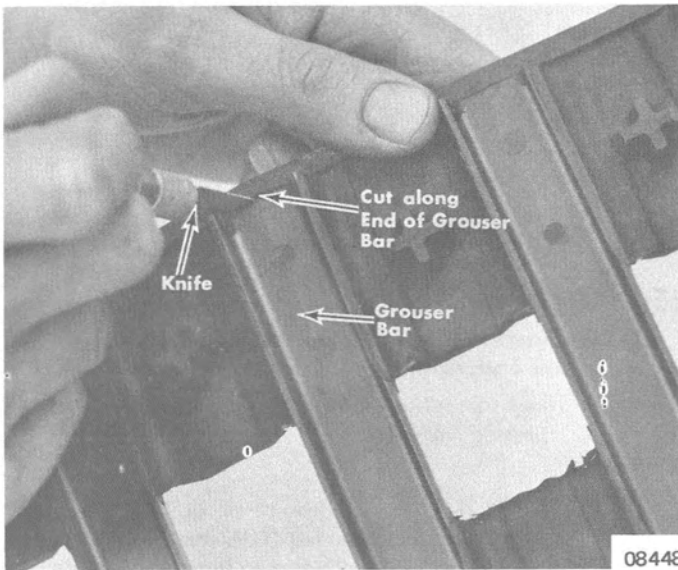

Figure 7. Cutting Grouser Bar Bonding
1. Make a shallow knife cut along end of grouser bar. Cut must be thru section of rubber and down to bare metal of grouser bar. (Figure 7)